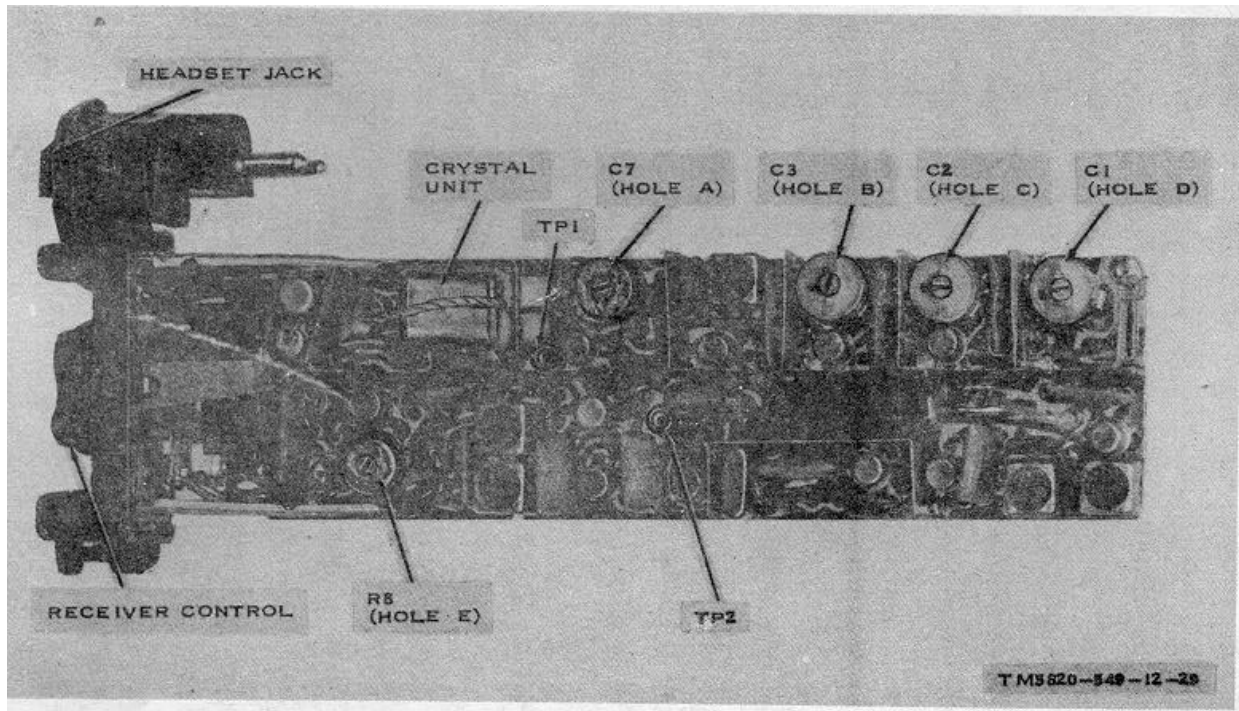

Figure 3-6. Receiving Set, Radio AN/PRR-9, alignment adjustments.
- e. Turn the ID-1189/PR FUNCTION switch (fig. 3-1) to RCVR-OSC. Insert the ID-1189/PR TEST PROBE into the AN/PRR-9 TP 1 jack (fig. 3-6) through hole TP 1 in the RECEIVER ALIGNMENT receptacle.
g. Turn the ID-1189/PR FUNCTION switch to RCVR-COARSE RF. Turn the RCVR TEST SIG. rotary switch maximum clockwise. Place the TEST PROBE through TP 2 hole into TP 2 jack (fig. 3-6) in the AN/PRR-9 electronic assembly.